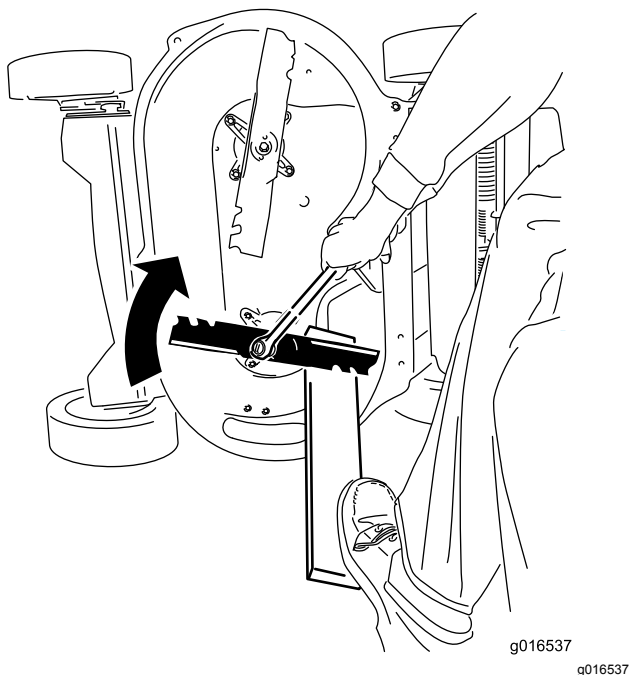

Figure 40
2. Steady each blade with a board and turn the blade bolt clockwise with a torque wrench as shown in Figure 40; torque each blade bolt to 82 N·m (60 ft-lb).